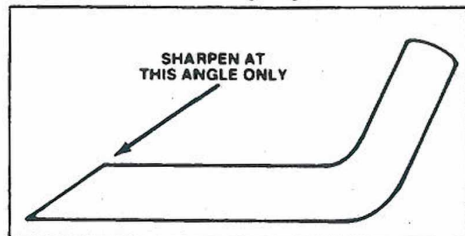

Figure 22
6. SHARPENING BLADE — Using a file, sharpen top side of blade and maintain original cutting angle (Fig. 22). The blade will remain balanced if same amount of material is removed from both cutting edges.